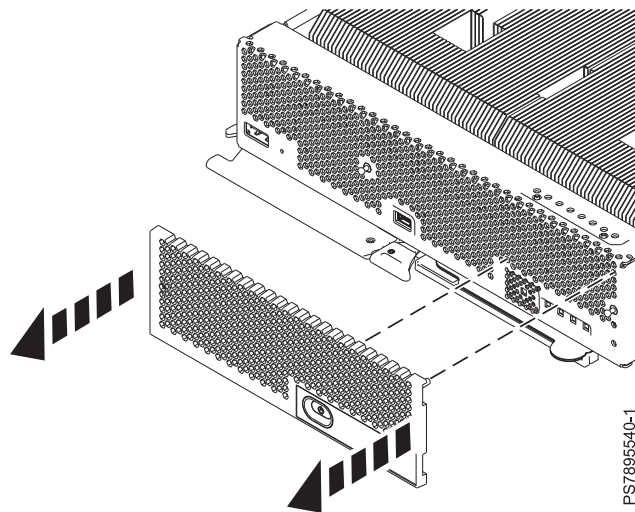
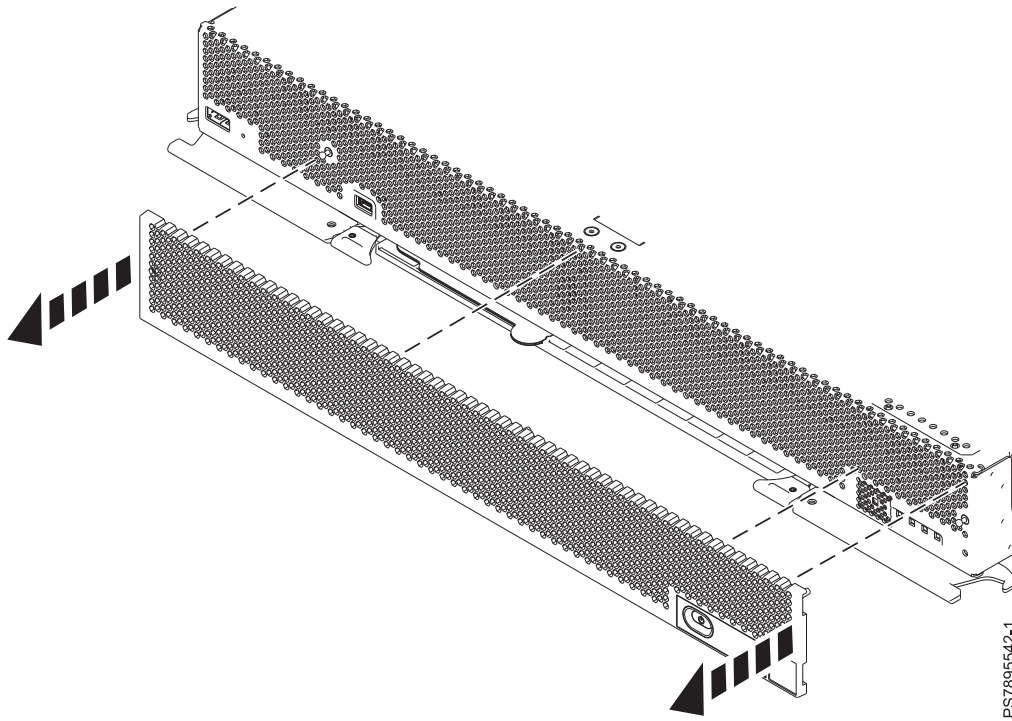

Figure 13. Removing the bezel assembly from an IBM Flex System p260 Compute Node
Figure 14. Removing the bezel assembly from an IBM Flex System p460 Compute Node
4. Locate the bezel on the right-front side of the compute node. Holding both sides of the bezel assembly, pull the bezel assembly away from the compute node as shown in Figure 13 on page 43 and Figure 14.